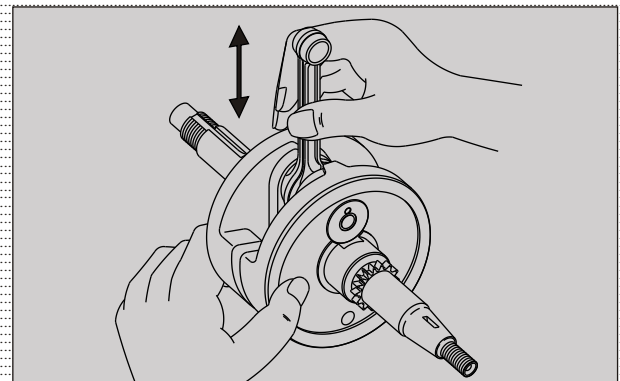

Fig. 3.156
- Also holding the crankshaft assembly in hand, shake the connecting rod to find out the radial play. If any play is noticed, then replace the crankshaft assembly with a new one. (Fig. 3.156)